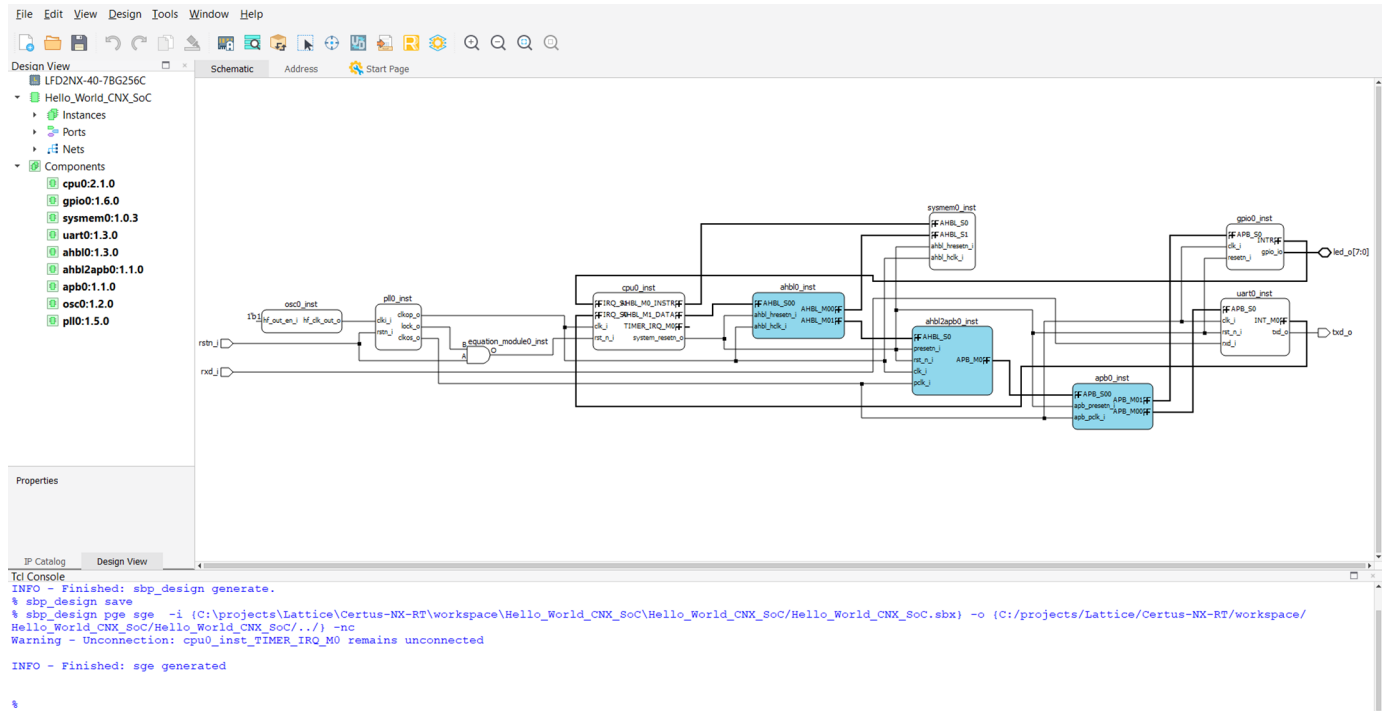

Figure 9: Generating the Default SoC Design
- For the provided template, the default **SoC** design is sufficient; hit **Generate**  to generate the different files used by the software, see **Figure 9**.